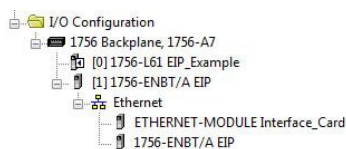

Figure 40: I/O Configuration Tree
- 6) After adding the I/O Module to the configuration, the full I/O Configuration tree should appear similar to Figure 40.